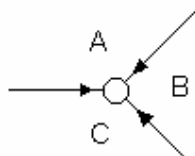

Figure 6
4. Finally, transfer the arrows back to the space diagram in the same direction as on the triangle of forces (figure 6). If they push onto the pin joint, the member must be in compression and so is a strut. If the arrow pulls on the joint, the member must be in tension and so is a tie.